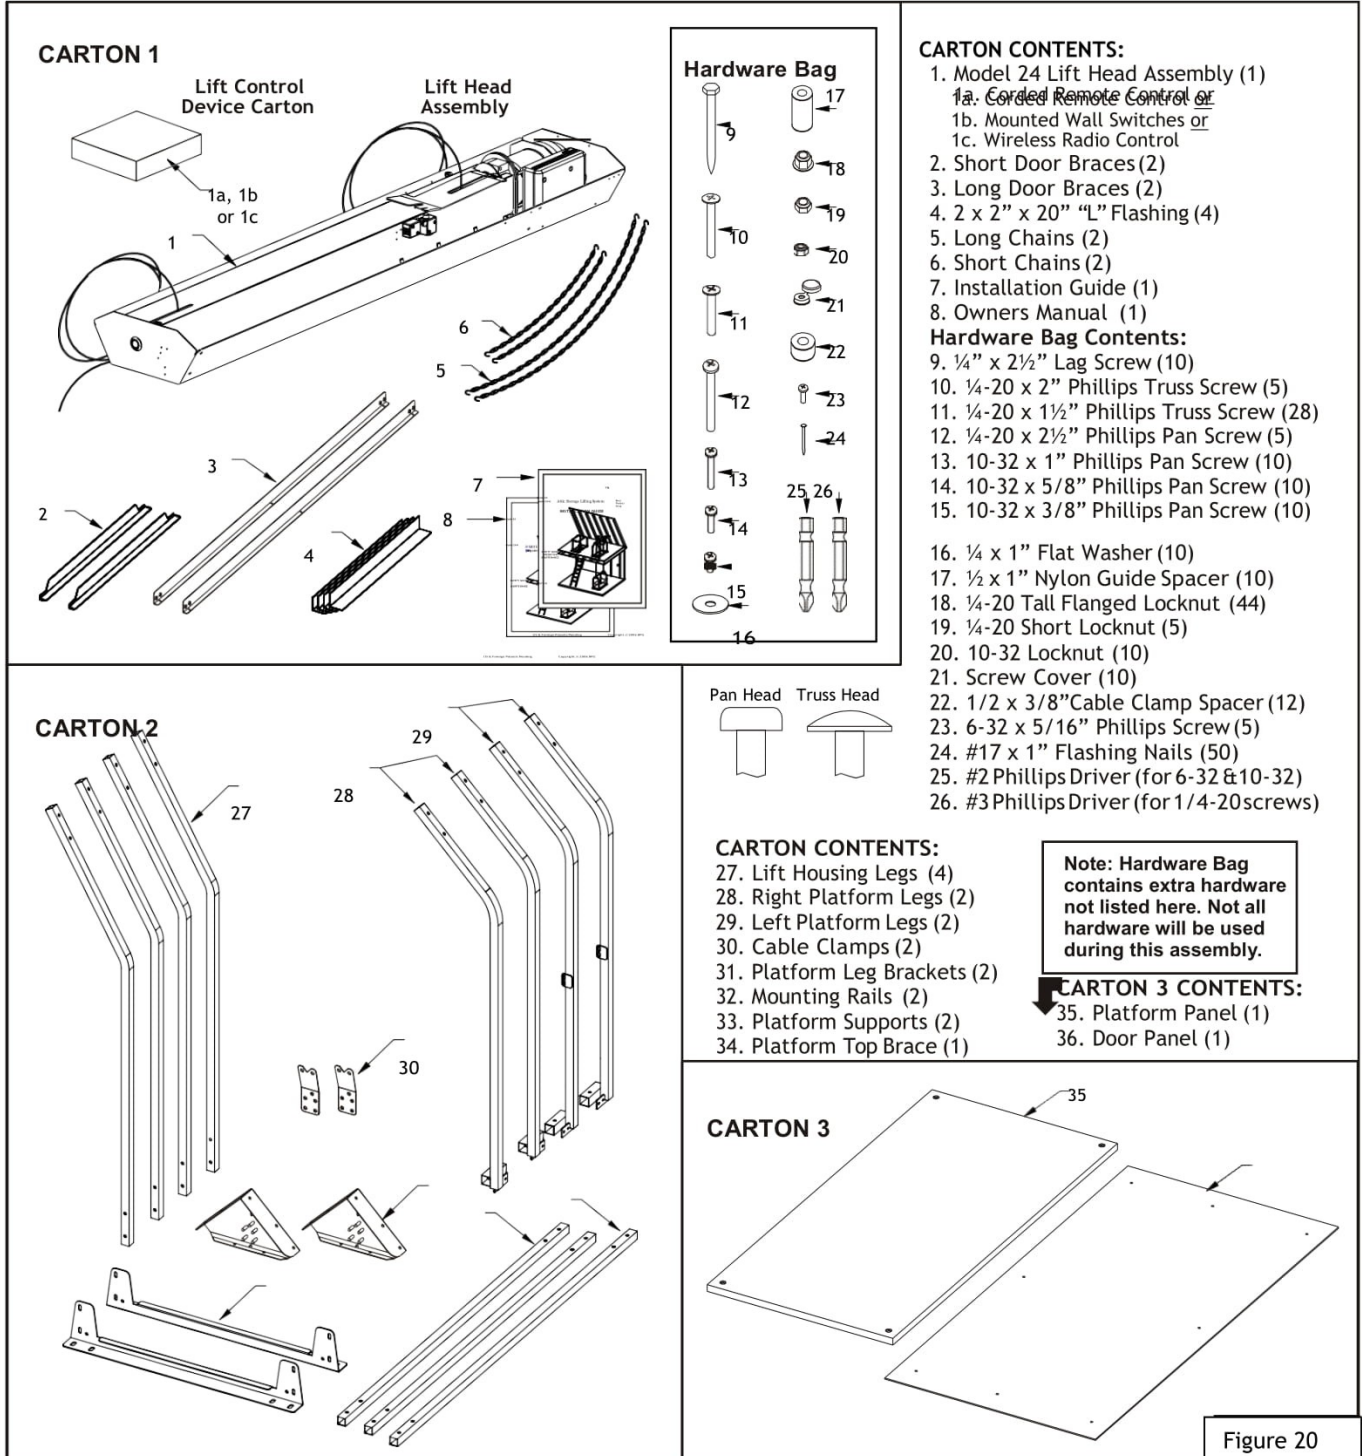

Figure 20
1. UNPACKING: Save Carton #1! (You will need the two long lift housing cartons (overpack, telescoping box and foam blocks) for warranty repairs. So please save them!) The Versa Lift is packed in three cartons. The carton contents are shown below in Fig. 20. The fasteners shown in Fig. 20 inset will be in a hardware bag (you
don't need to count the hardware). Open the cartons and check the contents to locate all of the items in Fig. 20. Also, check the components in all three cartons for any damage. If any components are missing or damaged, do not proceed with assembly. Contact us to get needed replacements for any missing or damaged items.